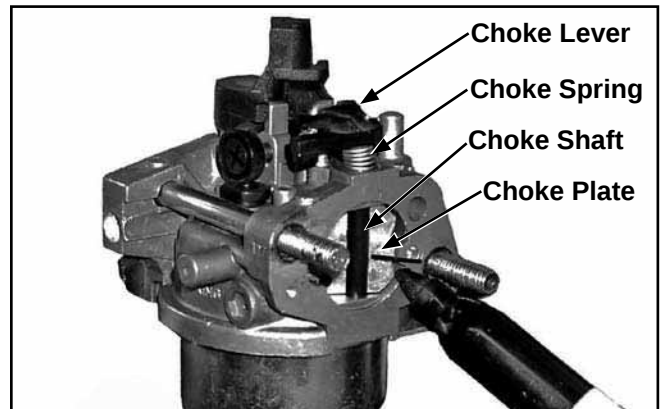

Figure 5-11. Mark Choke Plate and Carburetor.
5. To ensure accurate reassembly, mark the choke plate and the carburetor body with a waterproof pen. See Figure 5-11.
5. Noting the marks made earlier on the choke plate and the carburetor, insert the choke plate into the slot in the choke shaft. See Figure 5-11. The plate is held in the shaft by dimples on the plate's surface.